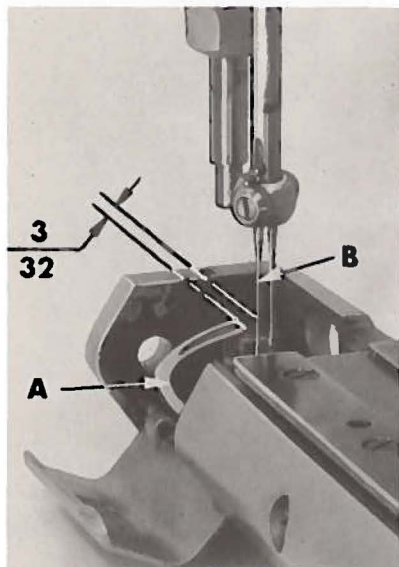
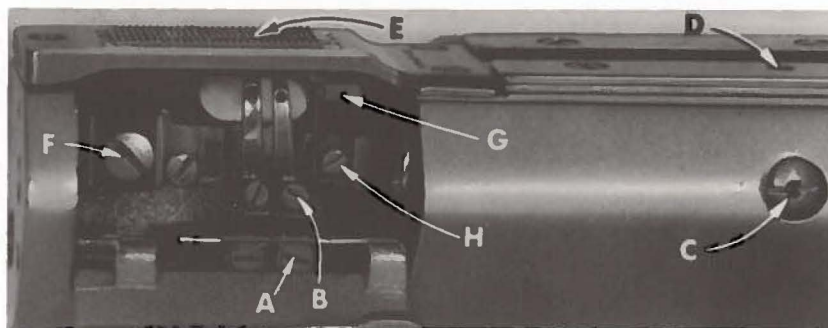

Fig. 4
Fig. 5
Insert a new set of needles, type and size as specified. Always adjust the looper (A, Fig. 4) for the left needle, first. Set the looper so that the distance from the center of the needle (B) to the point of the looper (A) is  $\frac{3}{32}$  inch, when the looper is at its farthest position to the left. Looper gauge No. 21225- $\frac{3}{32}$  can be used advantageously in making this adjustment. If adjustment is required, loosen screw (A, Fig. 5) in looper holder, allowing movement in either direction to obtain the  $\frac{3}{32}$  inch dimension as shown in Fig. 4, retighten screw (A, Fig. 5). Rotate handwheel in operating direction to assure that the looper point passes to the rear of the needle and as close as possible without contacting and the descending needle barely brushes the back of the looper. This adjustment can be made by loosening screw (B, Fig. 5) slightly, so the looper can be moved in the holder, yet rigid enough to retain its position while rotating machine through its cycle to obtain the required movement, retighten screw (B). Always check the  $\frac{3}{32}$
Set the feed bar eccentric pin (C, Fig. 5) with the slot in a horizontal position. This is the neutral position of eccentricity but can be turned to raise or lower the height of the feed bar, if required. The feed bar eccentric pin is held in position by set screw (D). The height of the feed dog (E) is set correctly when the tips of its teeth extend the depth of a tooth above the throat plate, at high point of travel. The elongated slot in the feed dog for its attaching screw (F) has been provided for this purpose. After the proper height has been obtained, position the feed dog support (G) flush against the bottom of feed dog (E) and tighten support screw (H) securely.